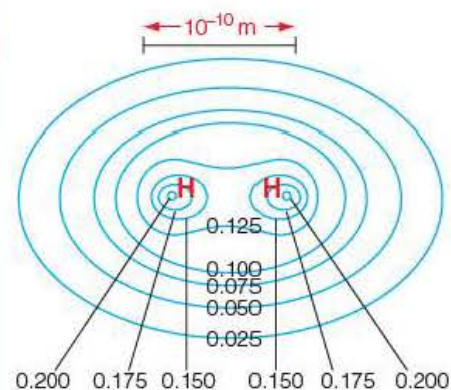

Figure 4.39 ▲
- 22 Look at the electron density map of hydrogen, H_2 , in Figure 4.39.